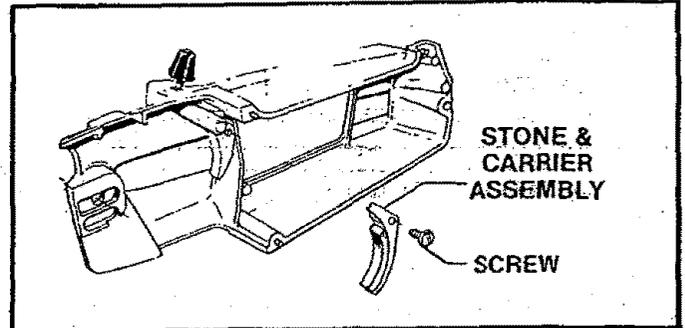

Figure 28
2. Remove screw holding Stone and Carrier Assembly. Figure 28.